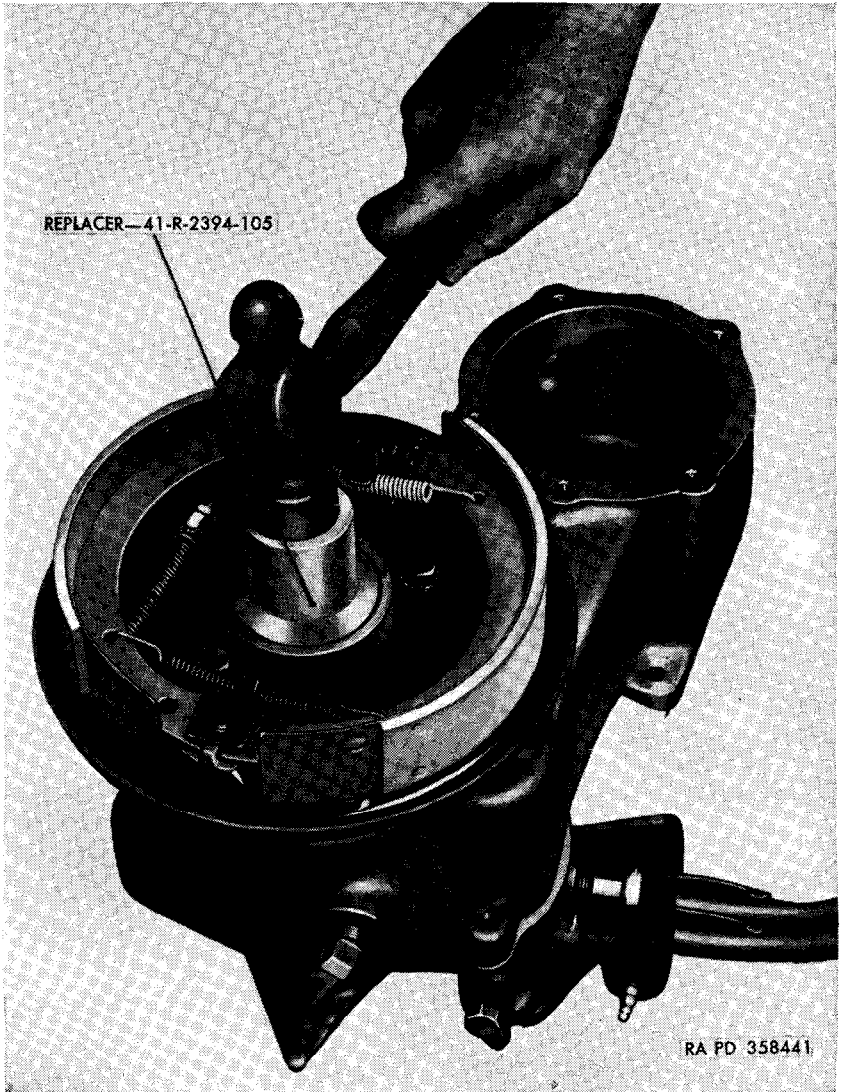

Figure 47. Installing output shaft rear bearing cap oil seal.
Place a new output shaft rear bearing cap oil seal gasket (H) in place on the output shaft rear bearing cap (K). Using replacer 41-R-2394-105 (fig. 47), install a new output shaft rear bearing cap oil seal (G) in the output shaft rear bearing cap. Install rear companion flange (D), $\frac{3}{4}$ -inch flat washer (C), $\frac{3}{4}$ -20NF-3 slotted nut (B) and cotter pin (A).